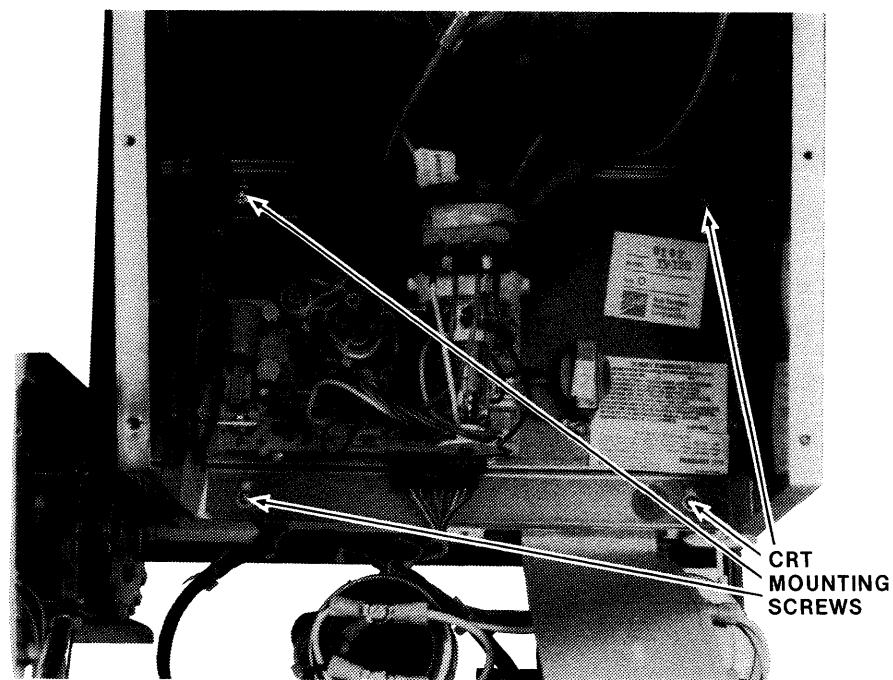

Figure 4-12. CRT Connector and Mounting Screws
5. Unscrew the CRT from the chassis. Figure 4-12 shows the four screws that fasten the CRT to the chassis. Slide the CRT to the side; it is not necessary to remove it completely.